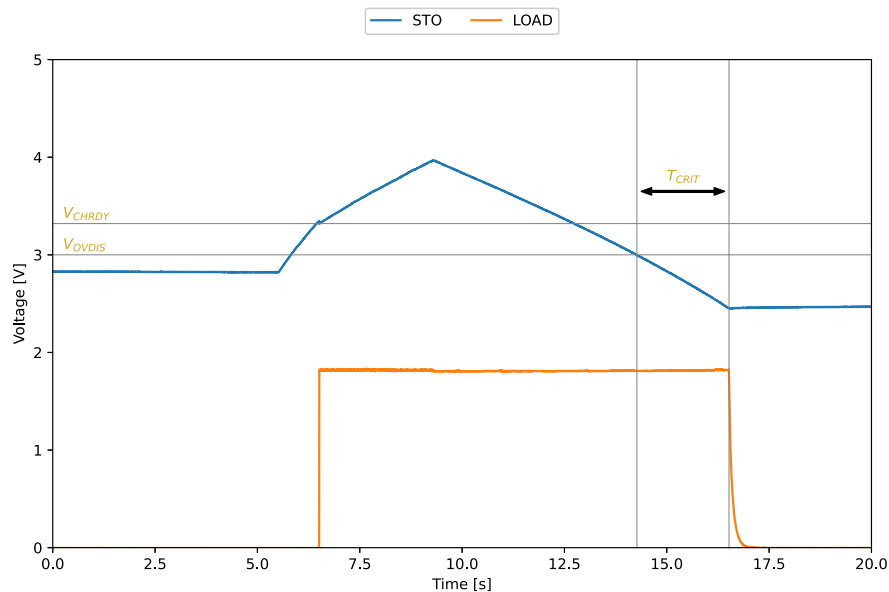

Figure 4: LOAD output behavior
- Disconnect the power supply or SMU from **SRCx** (done at about 9 s on Figure 4).
Please note that, in a real application, the storage element would be a battery or a supercapacitor, with much higher stored energy, so that V_{STO} would not drop as low as on Figure 4 during **T_{CRIT}**.